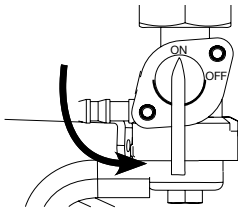

Figure 9 - Fuel Shut Off - ON
(2) Tripped Position
6. Move the fuel shut off valve to the **ON** position (see Figure 9 below).